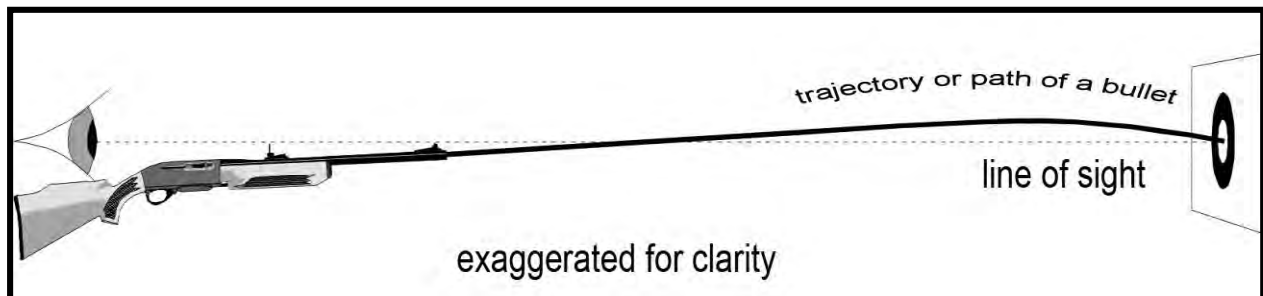

Figure 39. Trajectory of a Bullet
- a. The trajectory is the path a discharged shot or bullet takes during flight (Figure 39). Several factors affect this path; examples include, but are not limited to, the following: